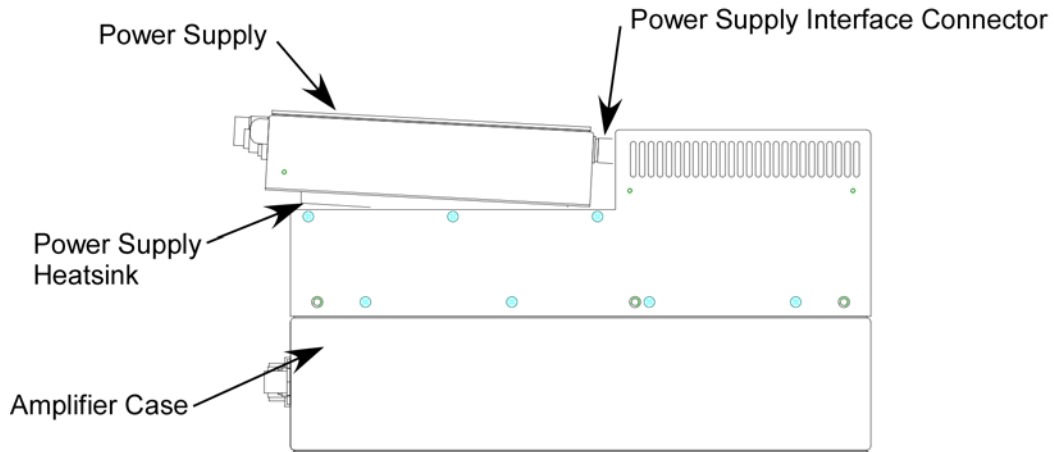
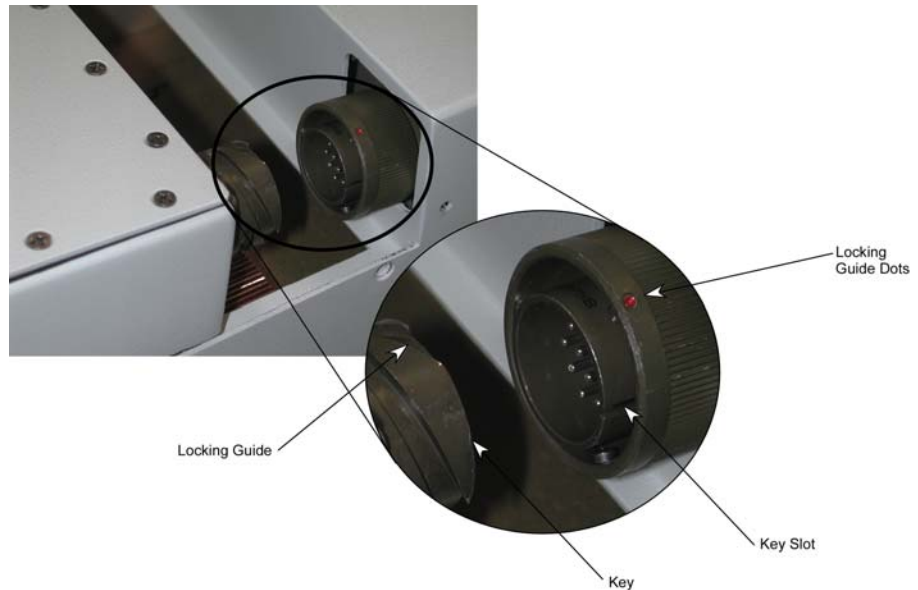

Figure 5, Power Supply Interface Connector
Figure 6, Power Supply Interface Connector
4. Refer to Figure 5. Carefully raise the front of the power supply to an angle of about 5 degrees. This will allow the power supply heatsink to clear the amplifier case.
- 1 Refer to Figure 5 and Figure 6. Position the new power supply approximately one inch from the Power Supply Interface Connector at an angle of approximately 5 degrees.